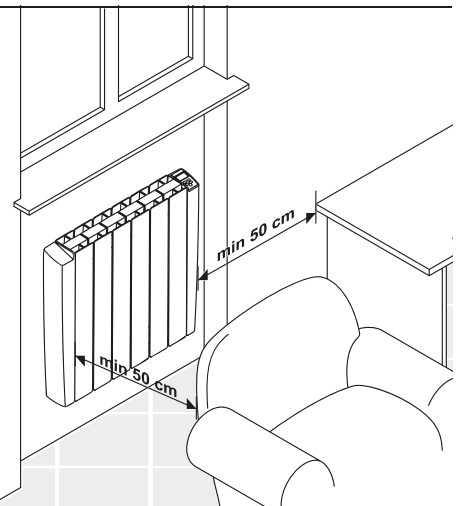

FIG. 5
- immediately below or in front of a power socket or a junction box (Fig. 5)